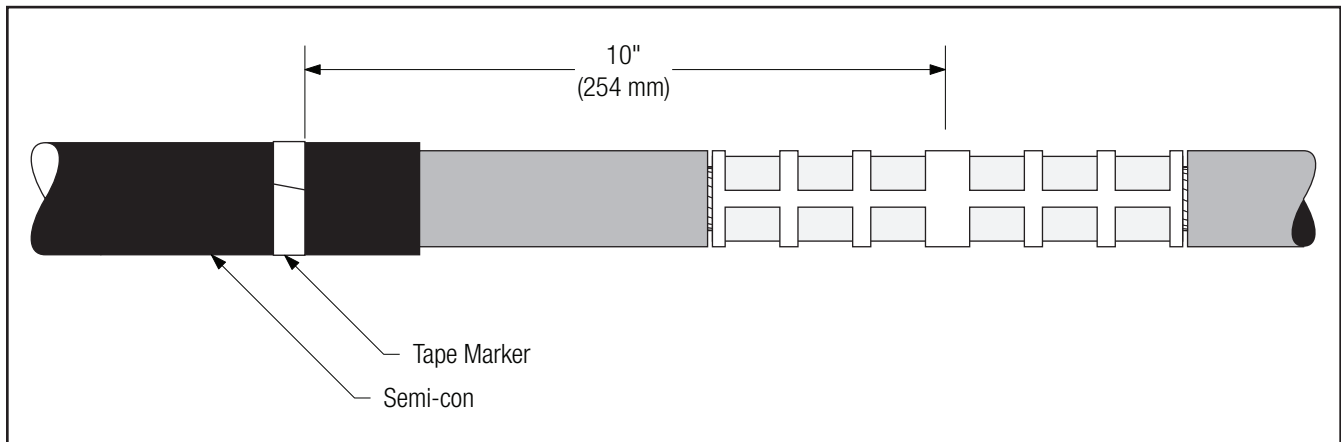

Figure 13
- 4.1 Apply a tape marker to semi-con insulation shield on cable which does not contain splice. Measure 10" (254 mm) from center of connector (*Figure 13*).